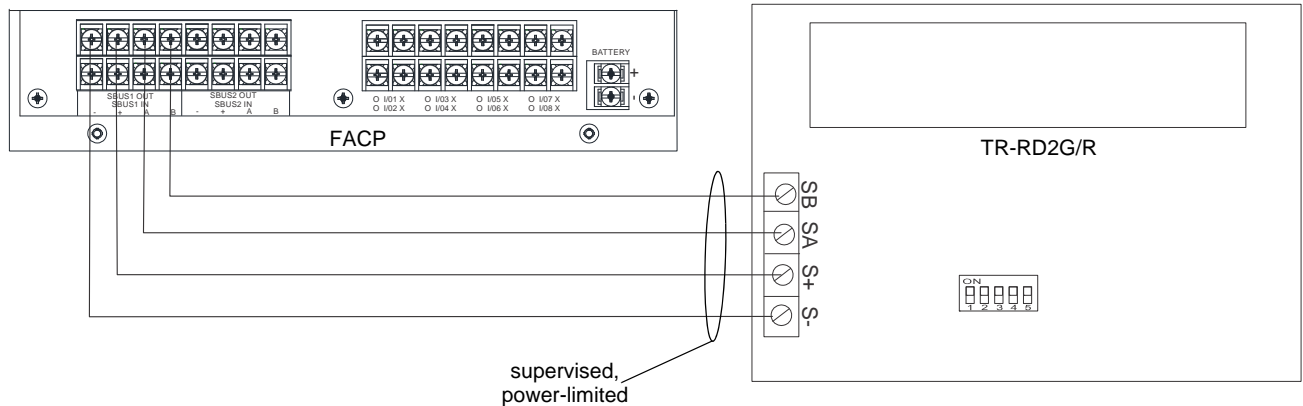

Figure 4.23 TR-RD2G/R Connection to the Panel
3. Wire the annunciator board to the main control panel as shown in Figure 4.23.
7. Run wires to the control panel. Refer to Figure 4.23.